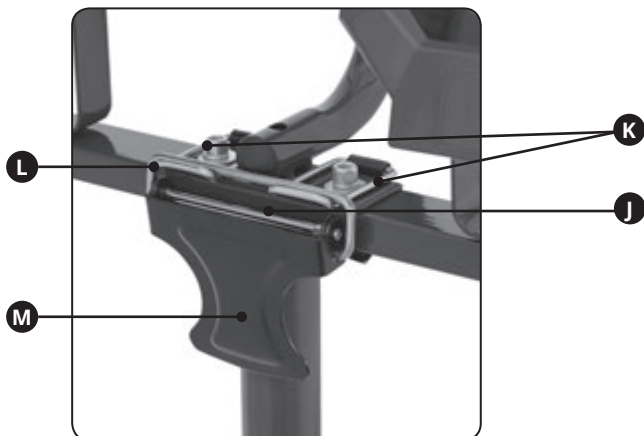

Figure 4
8. Place assembled work light on top of tripod. Centre bar of base must be seated in Quick Release latch (J, figure 4.).
9. Place two buckles (K) of quick release latch over base centre bar, place buckle (L) over both buckles (K) and push down lever (M) to secure.